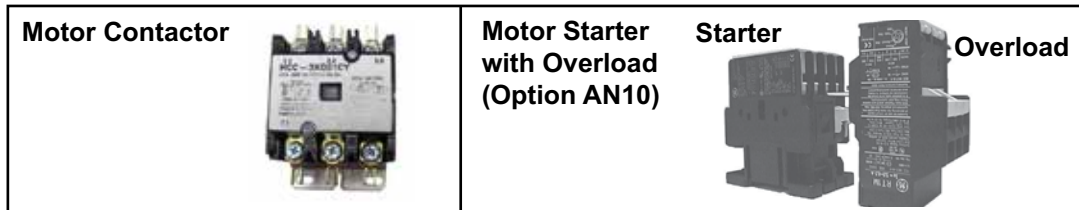

Figure 11. Motor Contactor and Starter (Refer to Table 14, Table 15, and Table 16)
- The motor contactor (see Figure 11) used on single-speed blower motors is PN 216386 (replaces PN 119625) and the starter is option AN10 (see Figure 11).
- Single-speed blower motors are listed by type, HP, and voltage. Highlighted motors in Table 14, Table 15, and Table 16 do not have internal overload protection and **MUST** be used with the starter and overloads listed unless the unit is equipped with a variable frequency drive (item 9, Table 3).